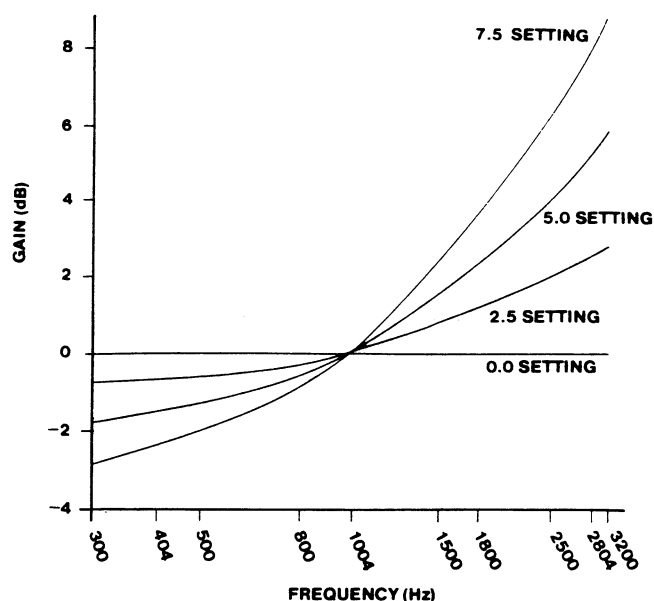

figure 5. Typical slope equalization response curves
**2.08** Two modes of amplitude equalization are available on the 6124/A for post-equalization of the facility-side (4wire) receive pair. The first is prescription active slope equalization for nonloaded cable. When this mode is selected, from 0 to 7.5dB of gain at 2804Hz (re 1004Hz) can be introduced into the receive path in switch-selectable 0.5dB increments. Typical frequency response of the slope equalizer is shown in graphic form in figure 5 and in tabular form in table 1.
**2.10** The response curves of both the slope equalizer and the bump equalizer "pivot" at 1004Hz, as shown in figures 5 and 6. Thus, neither equalizer has any effect on 1004Hz levels. As a result, equalization can be introduced into the receive channel of the 6124/A not only before but also **after** receive levels are set, with no interference between level and equalization adjustments.
consisting of nonloaded cable. The transmit equalizer is essentially identical to the receive-channel slope equalizer, providing from 0 to 7.5dB of gain at 2804Hz (re 1004Hz) in switch-selectable 0.5dB increments. Typical achievable flatness and typical frequency response of the transmit equalizer are the same as those of the receive-channel slope equalizer (see paragraph 2.08, figure 5, and table 1). Like the receive equalizers, the transmit equalizer does not affect 1004Hz levels. Thus, transmit equalization can be introduced not only before but also **after** transmit levels are set.